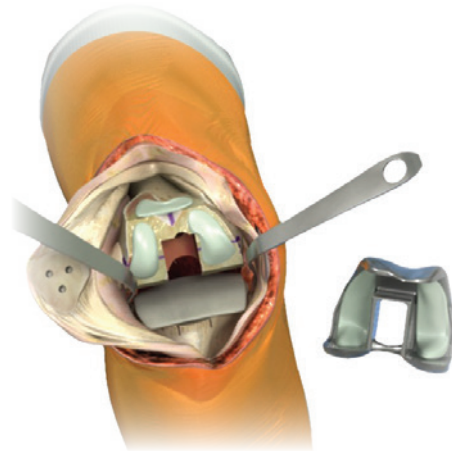

Figure 28
4. Flex the knee to 90° keeping the thin bent Hohmann laterally and removing the Aufranc retractor. Mix and prepare bone cement for femoral component and distal femur. Apply cement to the femoral component or prepared bone, based on the surgeon's preference (Figure 28).